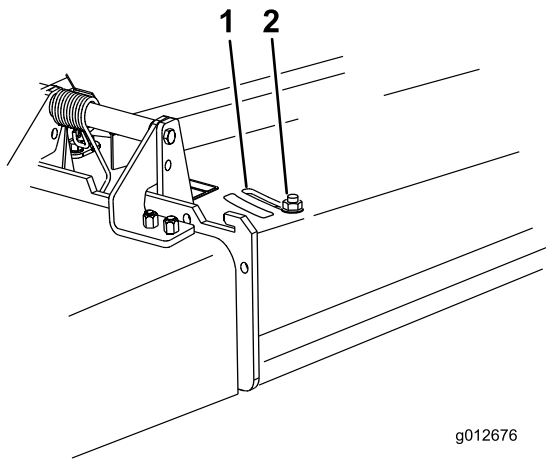

Figure 24
3. To adjust the baffle, loosen the nut (Figure 24).